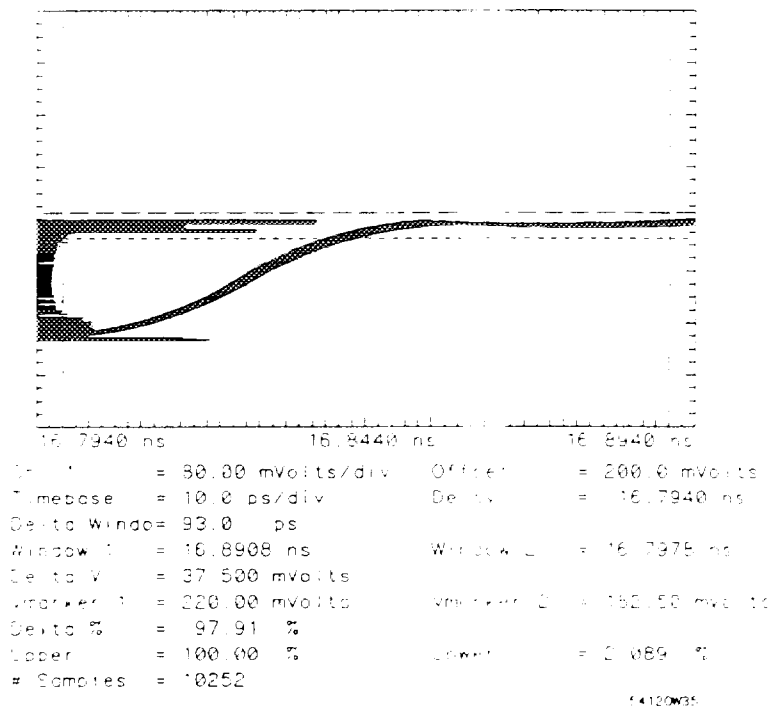

Figure 15-7. Evaluating the Distribution on a Multimodal Signal
- move the distribution limit markers to the top of the waveform so they include the first peak on the histogram. See figure 15-7.